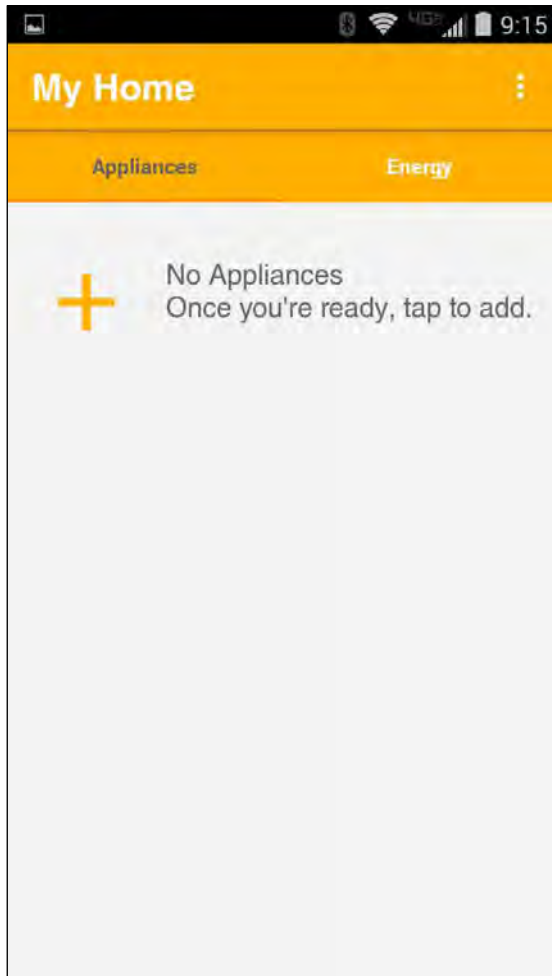
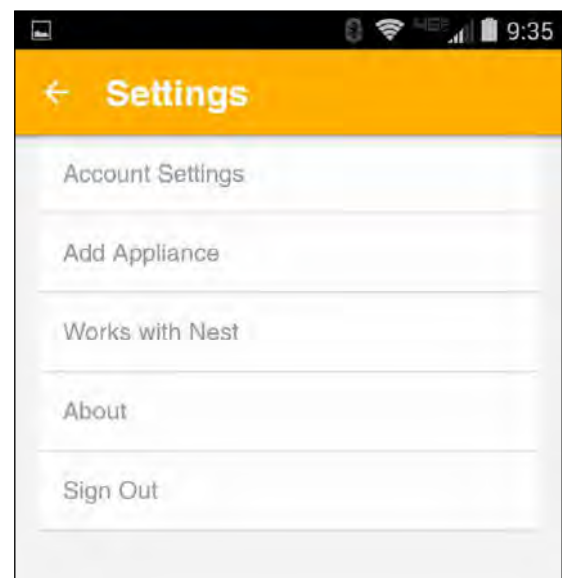

Figure 6
Figure 8
5. **Add Appliance:** After the account has been created, the home screen will alert the user that there are no appliances registered to the account. Click on the “+” to add the first appliance (see Figure 6). After the first appliance has been added to the account, the user must access the “Settings Menu” to add additional appliances. See Figure 8.
7. **Settings:** The Settings Menu (Figure 8) includes access to the following functions: